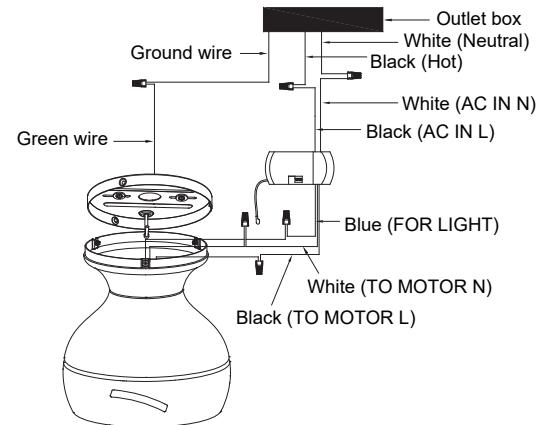

Fig. 10
Step 1. Motor to Receiver Electrical Connections: Connect the black wire from the fan to the black wire marked "TO MOTOR L" on the receiver. Connect the white wire from the fan to the white wire marked "TO MOTOR N" on the receiver. Connect the blue wire from the fan to the blue wire marked "FOR LIGHT" on the receiver. Secure all the wire connections with the plastic wire nuts provided (**Fig. 10**).
Step 2. Receiver to House Supply Wires Electrical Connections: Connect the black (hot) wire from the ceiling to the black wire marked "AC in L" from the receiver. Connect the white(neutral) wire from the ceiling to the white wire marked "AC in N" from the Receiver. Secure the wire connections with the plastic wire nuts provided (**Fig. 10**).
Step 3. If your outlet box has a ground wire (green or bare copper) connect it to the fan ground wires: Secure the wire connection with a plastic nut provided. Place the receiver into the motor housing. After connecting the wires, spread them apart so that the green and white wires are on one side of the outlet box and black and blue wires are on the other side (**Fig. 10**).